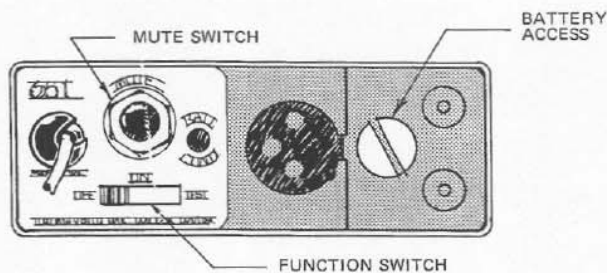

Figure 2—Preamp Box
**Battery Access:** After unpacking the unit, two size AA batteries should be inserted in the battery compartment. Access to the battery compartment is by removing the battery plate found directly adjacent to the connector at the base of the preamp box. A dime or other thin coin should be sufficient to loosen the fastening screw at the center of the battery plate. (See Figure 2). The battery plate is then pulled away and the two size AA batteries are inserted, taking care to follow the polarity instructions inside the case. Replace the battery cover plate making sure that the lead wires are not pinched in doing so. Secure the fastening screw, and the unit is ready for operation. Changing of batteries may be handled in the same way.
The on-off-test function switch allows the preamplifier to be turned off when not in use. The normal position for storage when not in use is in the "off" position. (See Figure 2).